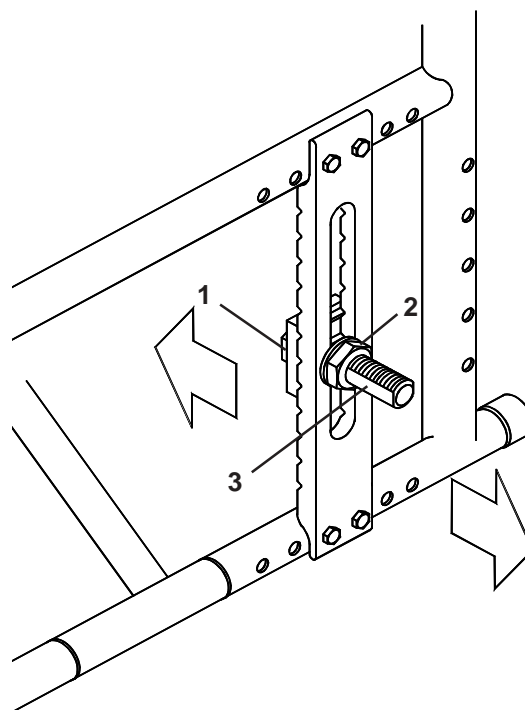

Fig. 35
To adjust the rear wheelbase (Fig. 35), loosen the inner (1) and outer (2) axle sleeve retaining 28mm A/F nuts. Screw the nuts along the axle sleeve (3) until the desired wheelbase is found. Tighten the nuts with a torque wrench to a setting of 45Nm.